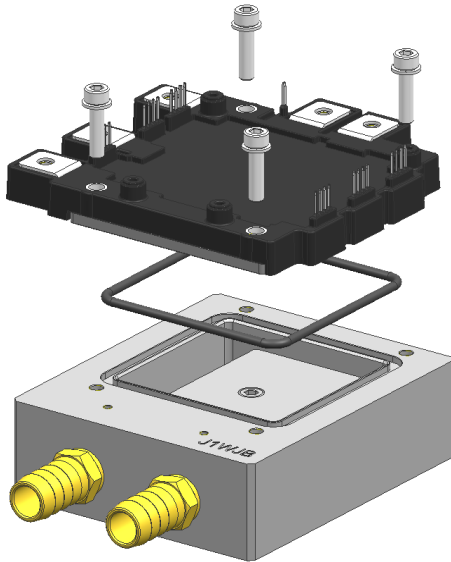
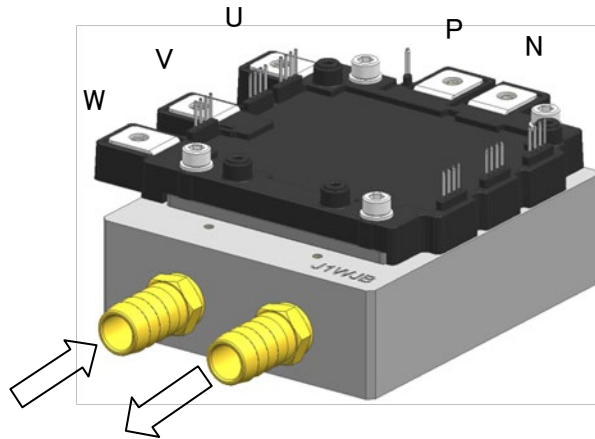
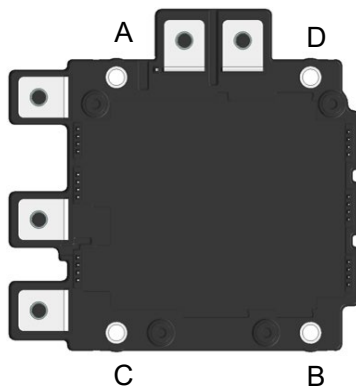

Fig.3 Assembly image
Fig.4 Flow direction of cooling water
Fig.5 Mounting sequence of J1-series
Assembly image to mount the J1-Series IGBT module to the water jacket is shown in Fig.3. When mounting , tighten four corners of the modules with M5 screws. Refer to each module data sheet for the tightening torque value(*). Mounting screws should be tightened in a diagonal sequence as shown in Fig.5 (A→B→C→D).
Inside diameter of cooling water inlet and outlet is Rc3/8. Fix hose joint wrapped by sealtape to inlet and outlet. Attached hose nipples are used as hosejoints in Fig.3. Please set water flow direction as shown in Fig.4.
2. Don't set water flow direction opposite to that shown in Fig.4.